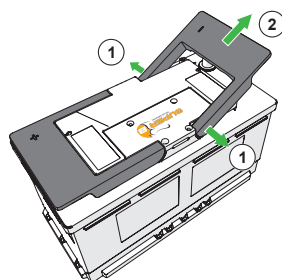

Figure 10. Remove the handles by pulling them outwards.
- b) Remove the handles by pulling them outwards. (Figure 10)